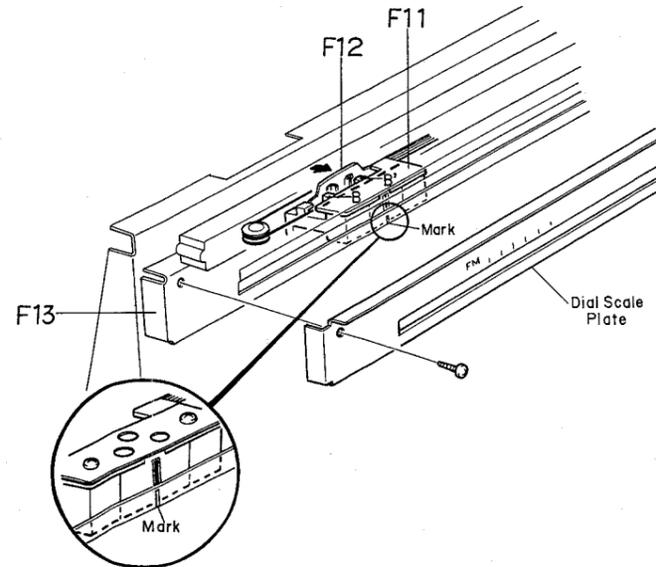
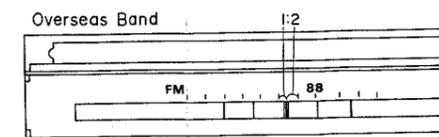
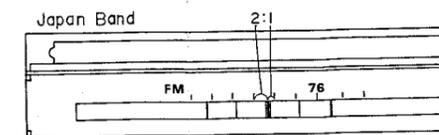

Fig. 5.2.1
Fig. 5.2.3
Fig. 5.2.4
(2) Referring to Fig. 5.2.1., bring F11 (Lamp Base Ass'y) to the left end and move F12 (Wire Stopper) backward with pliers.
1) With mounting a Dial Scale Plate Position F11 (Lamp Base Ass'y) in Fig. 5.2.1. so that the center of the pointer corresponds to the illustrated position on the scale as shown in Fig. 5.2.3.
Referring to Fig. 5.2.1., position F11 so that the center of the pointer corresponds to the mark on F13 (Scale Holder).
Position F11 in Fig. 5.2.1. so that the center of the pointer corresponds to the illustrated position on the scale as shown in Fig. 5.2.4.
Referring to Fig. 5.2.1., position F11 so that the center of the pointer corresponds to 2.5 mm away in the left from the mark on F13.
(5) Return F12 (Wire Stopper) in Fig. 5.2.1. to the original position by pushing it forward with pliers to fix the thread.